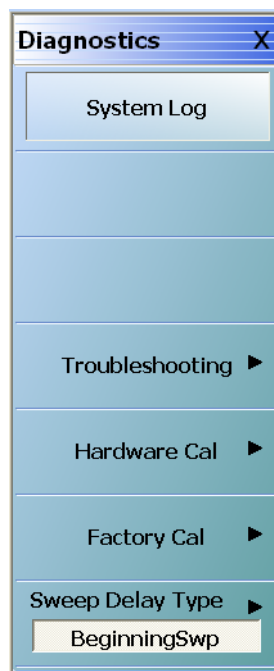

Figure 5-3. DIAGNOSTICS Menu
14. The Diagnostics Menu appears as shown in Figure 5-3.